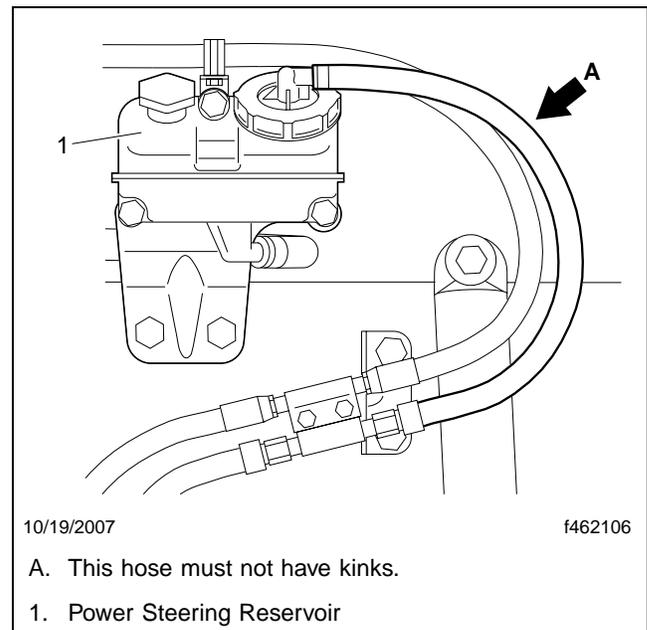

Fig. 5, Hose Routing From Power Steering Reservoir
37. Connect the return hose between the reservoir and formed line. The hose should have no necking or kinks that may impede the return fluid flow. See **Fig. 5**.